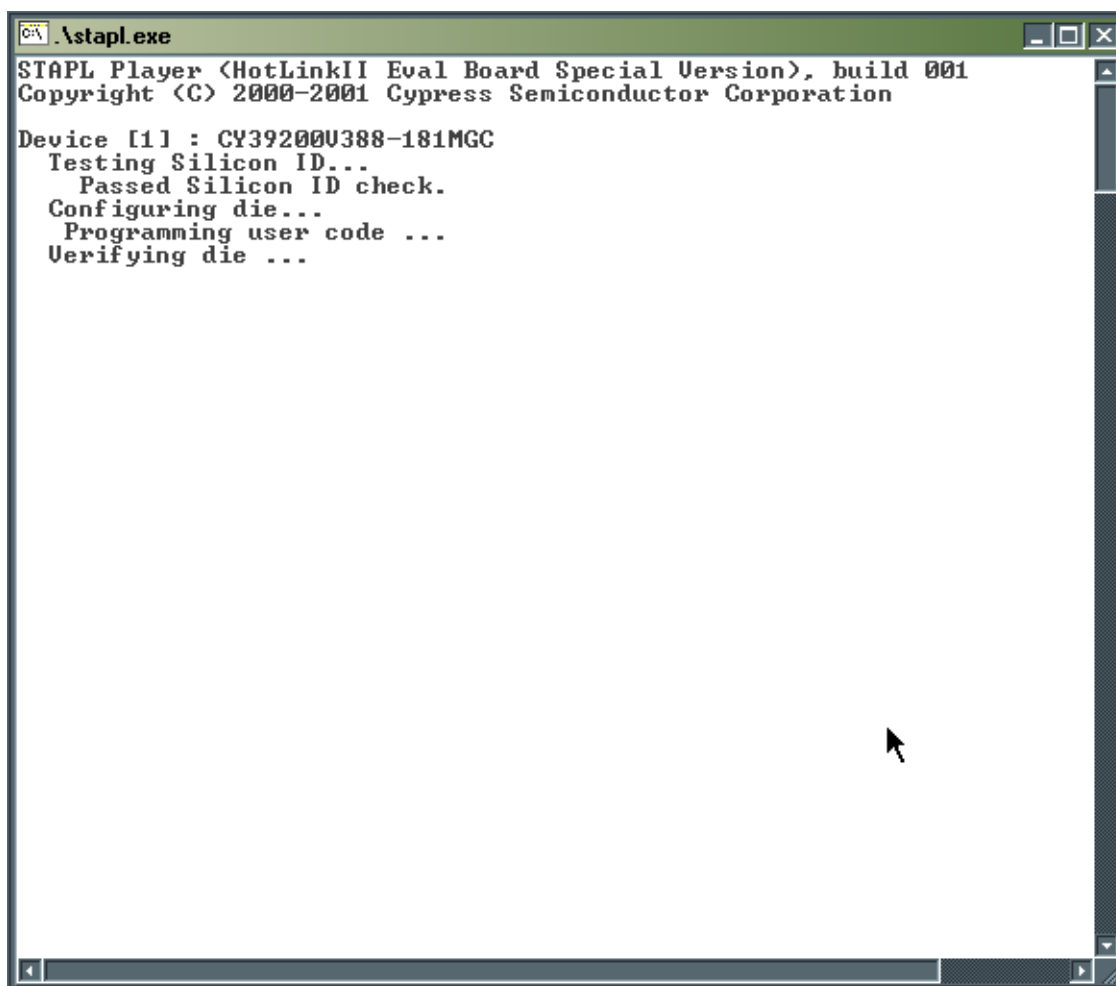

Figure 5-4. Configuration Window for All Tests
- To configure the Delta 39K CPLD for the desired test, click on the “Configure Board” tab (the following sections will cover the detail of each configuration). A configuration window shown in *Figure 5-4*, is opened while the CPLD is being configured via the USB port. After the board is configured for the particular test selected, the configuration window closes automatically. The Delta39K is now configured with the desired test.